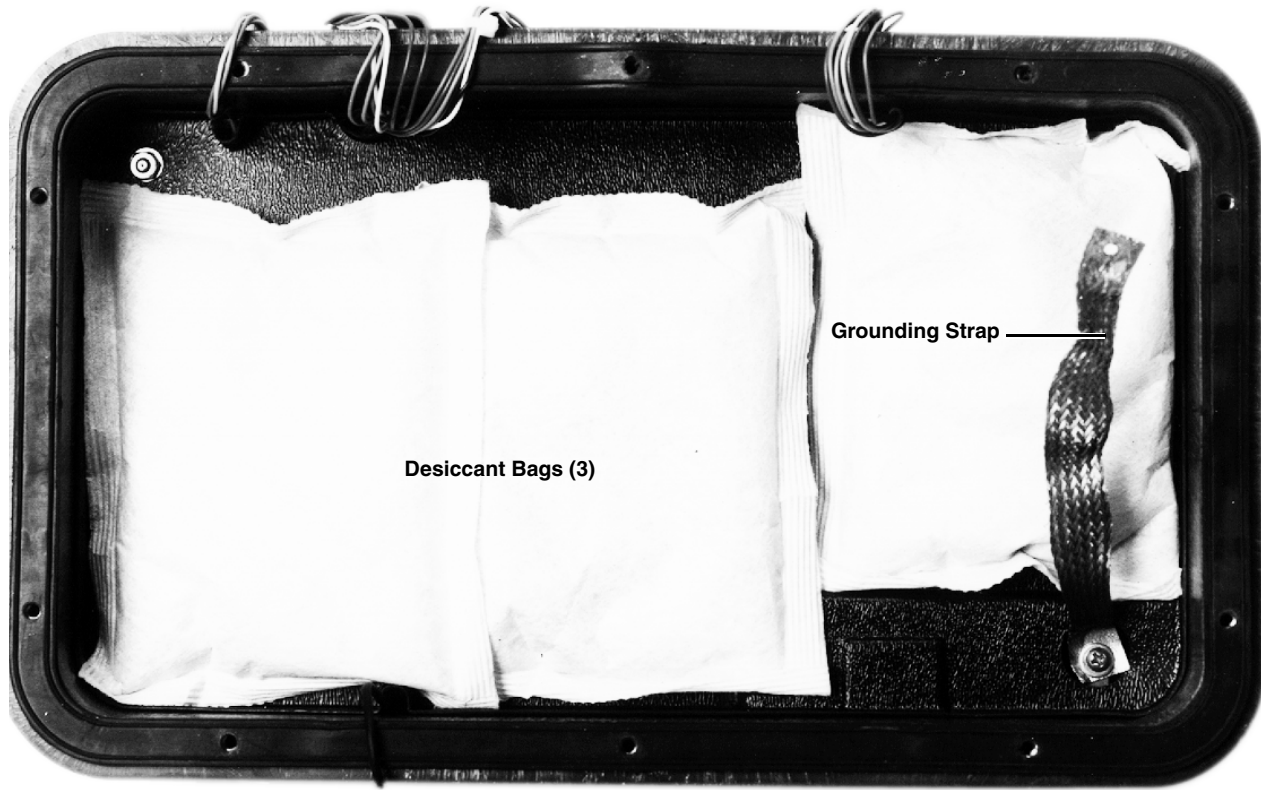

Figure 5-5 Internal Desiccant (controller lid removed)
**Renewing the Desiccant** - If you do not detect a leak, (see Figure 5-5).